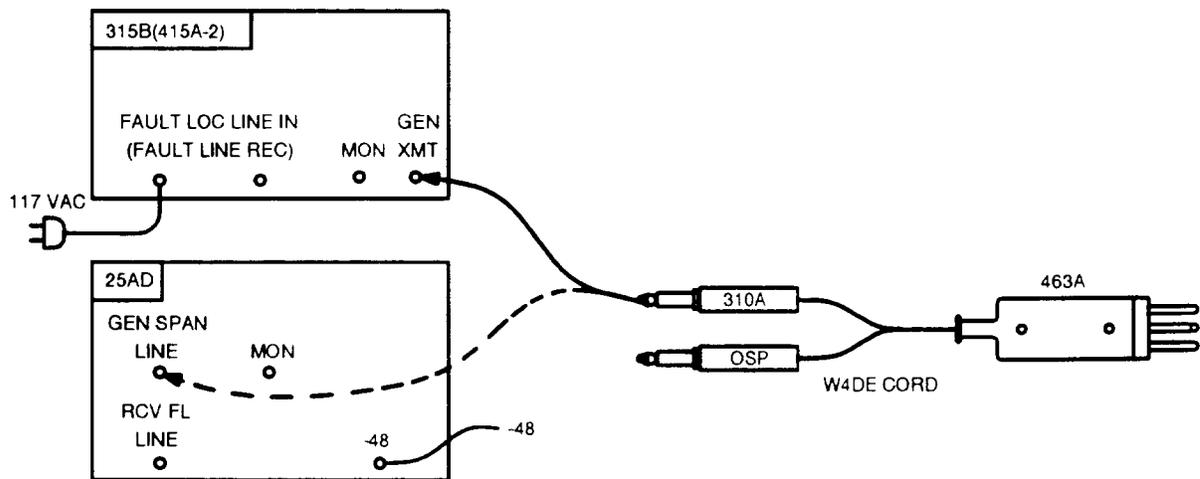

Figure 3 — Fault-Locating Equipment Connections to W4DE Test Cord for DSX-1 Level Access
5. Make connections from fault locate test set (315D, 415A-2, 25AD) to W4DE test cord. (See Figure 3.)